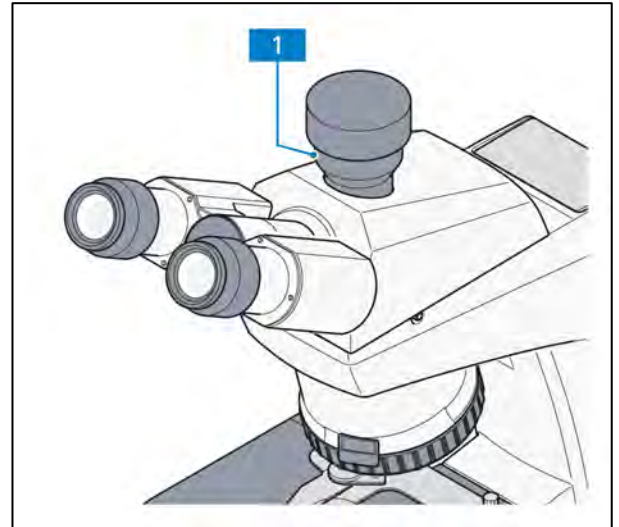
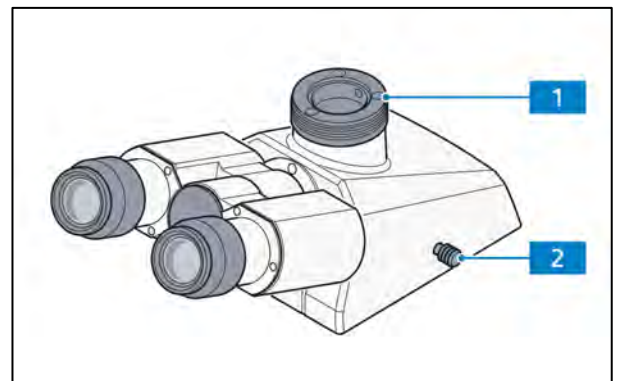
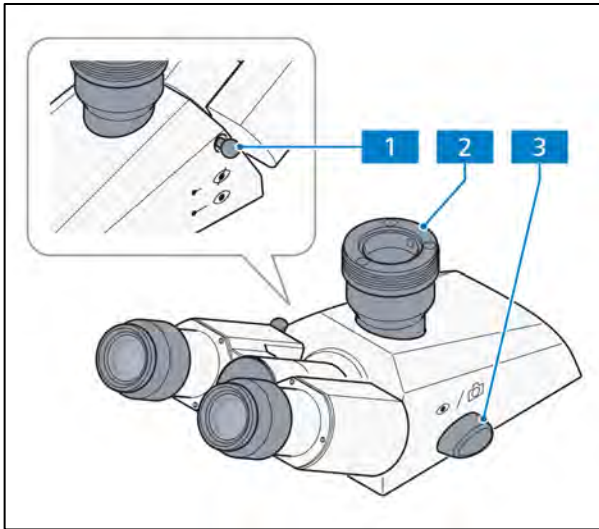

Fig. 2-8 Binocular photo tube 30°/23 with fixed graduation 50:50
Fig. 2-9 Binocular photo tube 20°/23 with toggle graduation 100:0/0:100
Fig. 2-10 Binocular photo tube 30°/23 with toggle graduation 100:0/0:100
The appropriate adapters for reflex cameras, microscope cameras and video cameras may be plugged into the camera port (Fig. 2-8/1, Fig. 2-9/1 or Fig. 2-10/2) of the binocular photo tubes.
Fifty percent of the light is directed to the eyepieces and fifty percent to the camera port (Fig. 2-8).
- Slider (Fig. 2-9/2) pushed in: 100% light to eyepieces.
- Slider (Fig. 2-9/2) pulled out: 100% light to camera.
- Shift knob (Fig. 2-10/3) to front (eye symbol):
- Shift knob (Fig. 2-10/3) to the rear (camera symbol):
- Push-pull rod (Fig. 2-10/1) pushed in: eyepiece shutter closed.
- Push-pull rod (Fig. 2-10/1) pulled out: eyepiece shutter opened.